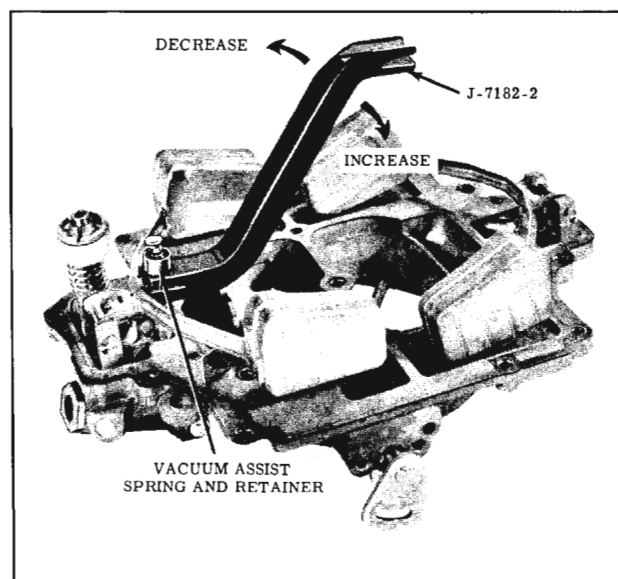

Fig. 9-21 Adjusting Vacuum Assist Spring
3. If an adjustment is necessary, bend the tang under the vacuum assist spring and retainer as indicated in Fig. 9-21.